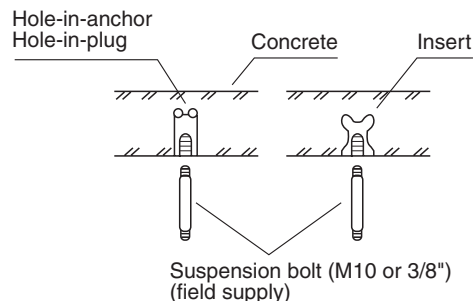

Fig. 1-69
- Insert suspension bolts as shown in Fig. 1-69 or
- (2) Screw in the suspension bolts allowing them to protrude from the ceiling as shown in Fig. 1-69. (Cut the ceiling material, if necessary.)